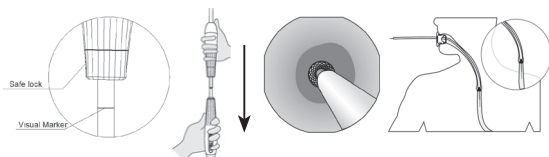

Fig. 14 Loosen the safe lock first, then withdraw the front handle to the visual marker to deploy the stent while immobilizing the back handle.
6. Deploy Stent (Refer to Fig.14)
Loosen the safe lock first, begin stent deployment by holding the front handle (farthest from the operator, Figure3, 5#) of the delivery system with one hand, and using the other hand, grasp the back handle (closest to the operator, Figure3, 6#) and hold this handle stationary. Between the handles is a black segment with visual markers to aid in stent deployment (Figure3, 4#). To deploy the stent, slowly pull the front handle toward the back handle while holding the back handle stationary (Figure 14). Monitor the stent deployment, keeping the radiopaque markers on the delivery system between the identified stricture margins. If necessary, it is possible to stop deployment and adjust the stent position proximally prior to passing the re-constrained marker (Figure3, 4#).